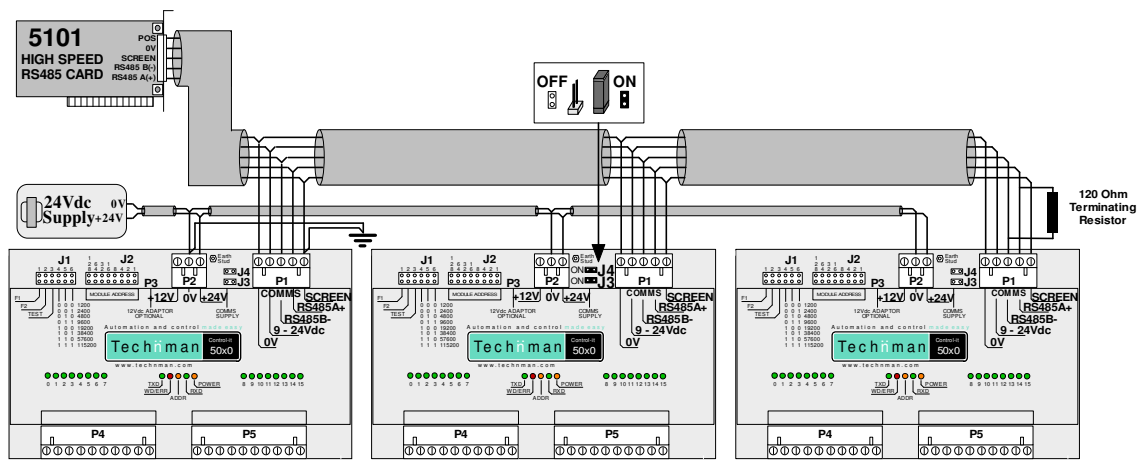

Figure 20 - Connection of multiple remote modules to a single **5101** board.
- The comms section of each module is connected in parallel (daisy chain) as in figure 20.
- Each module must be supplied with 12 or 24Vdc. This can be either a common supply to all modules as in figure 20, if the modules are close together, or separate supplies where the installation dictates.